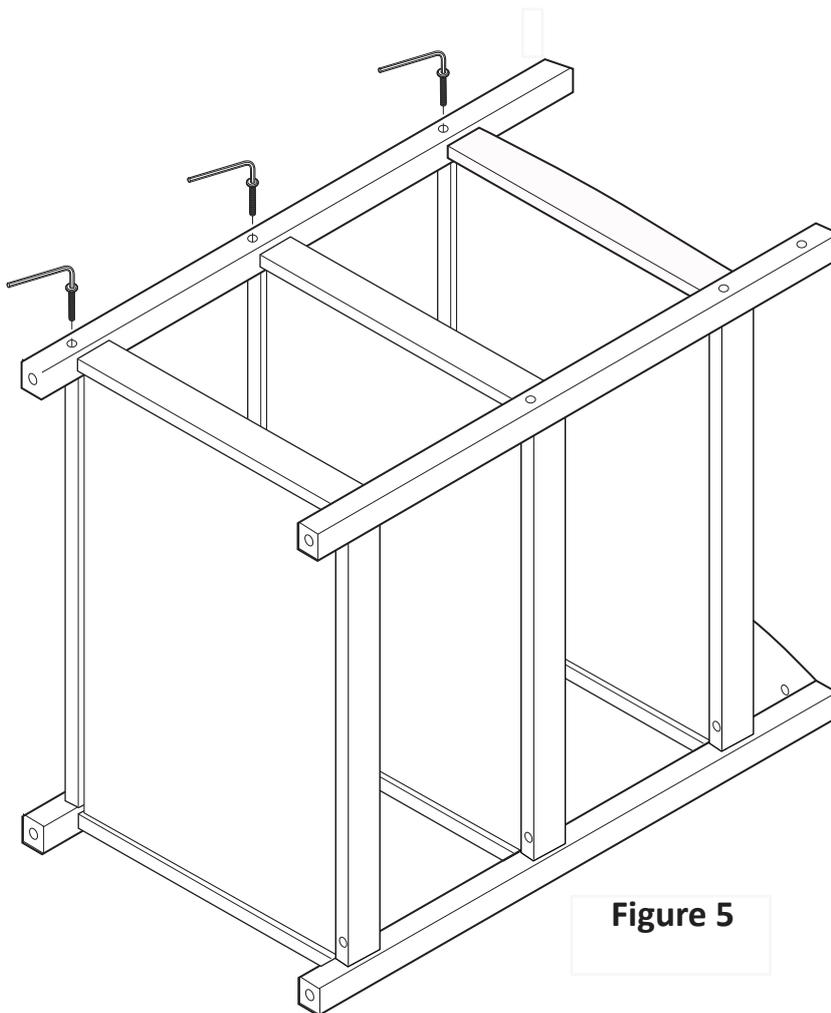

Figure 5
- Ensure that the shelf inserts are located in their corresponding grooves, as per **Figure 5**.